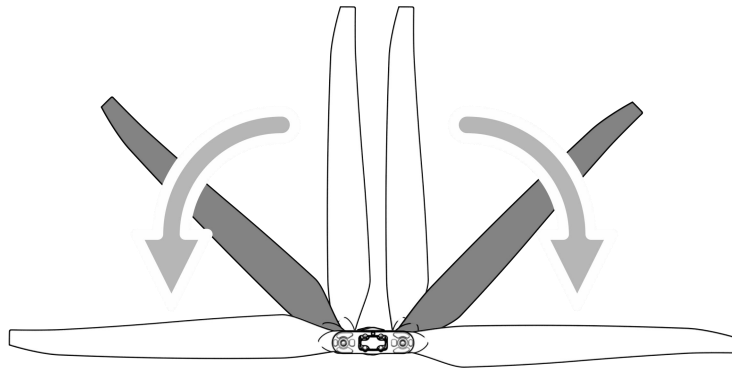

Figure 1-35 Unfold the Propellers
**Step5:** Unfold the propellers to 180°, as shown in Figure 1-35.